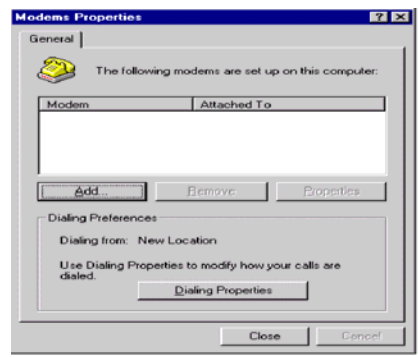

Figure 3 Modem Properties
4. At the **Modems Properties** window click the **Add** button (See Figure 3).